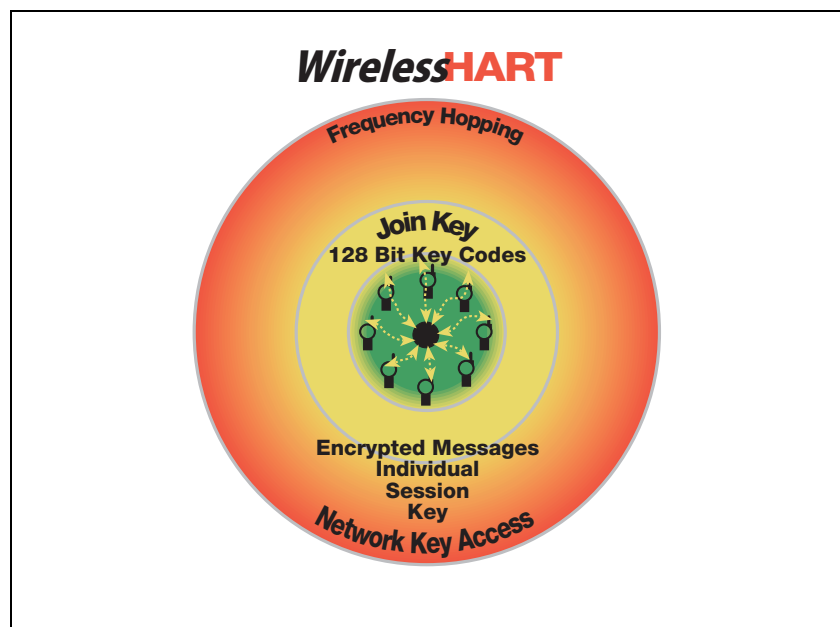

Fig. 6. Wireless security
- The system must verify if a joining instrument has the right credentials to join (is expected and has the join key – see Fig. 6).